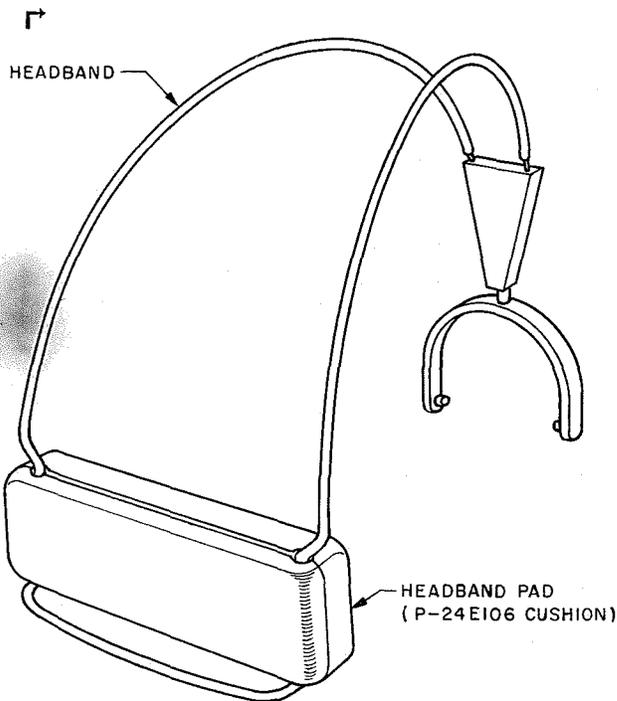

Fig. 18 - Synthetic Foam Headband Pad
**3.57 Synthetic Foam Headband Pad:** To place a synthetic foam headband pad on the headband, pass the free end of the headband through the slot of the pad, making sure that the thicker half of the pad is on the inner side of the headband as shown in Fig. 18.